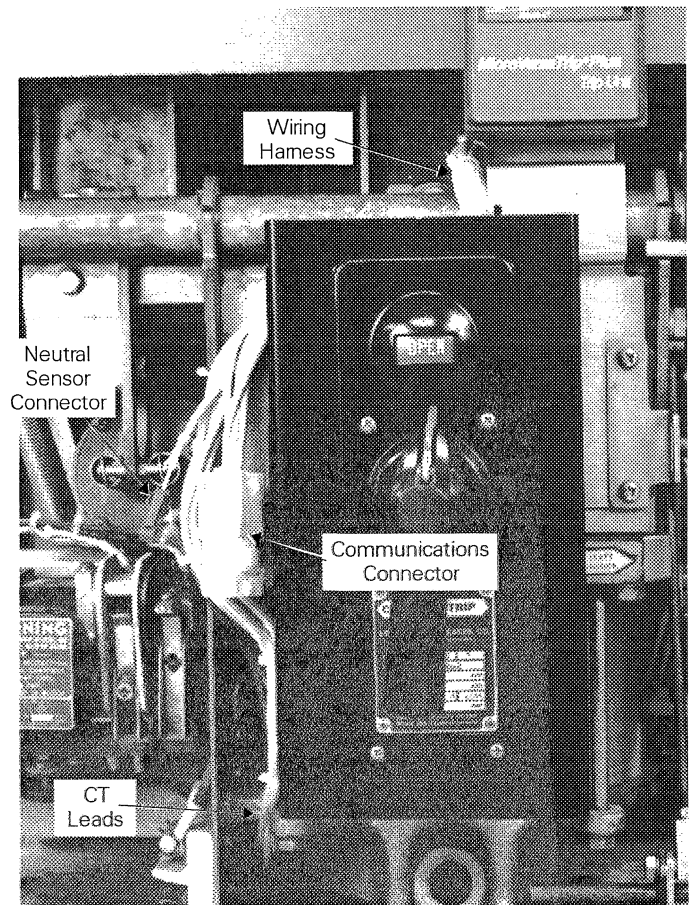

Figure 16. Route the trip unit wiring harness to the CTs.
5. Route the wiring harness down between the closing solenoid and closing contactor, as shown in Figure 16. Continue with the CT leads under the breaker, through the opening where the secondary control leads exit. Bring the leads up the right side of the breaker (looking from the rear) to the line-side primary disconnects. Secure the harness to the breaker frame with wire ties, as needed.